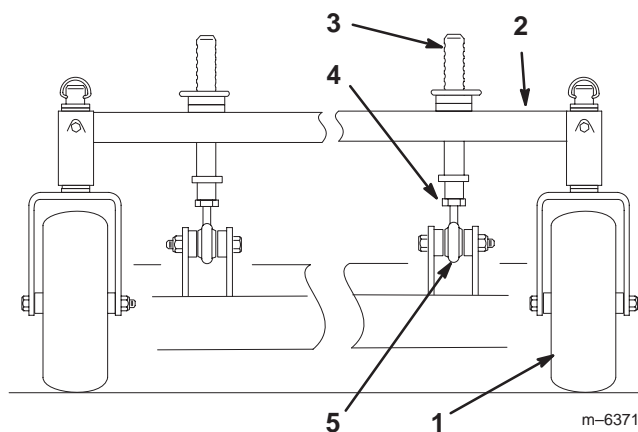

Figure 58
1. To change the front-to-rear pitch, the front height-of-cut posts can be adjusted (Fig. 58).
2. To raise the front of the deck, loosen jam nut and rotate the front pin clockwise (Fig. 58).
3. To lower the front of the deck, loosen jam nut and rotate the front pin counter clockwise (Fig. 58).